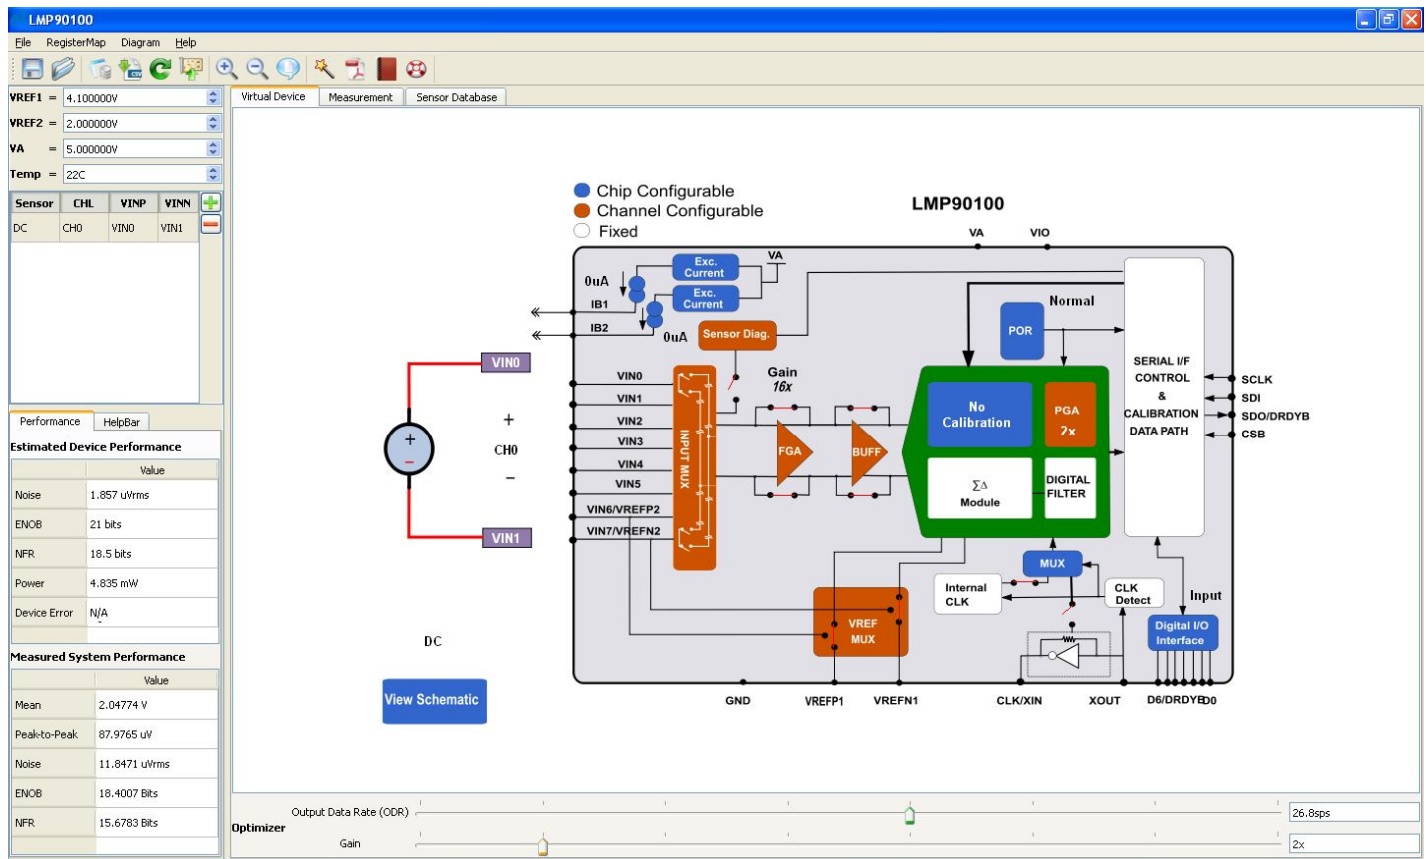

Figure 4 - Recommended LMP90100 Configuration for a DC Reading
1. Follow the step-by-step instructions under the "**HelpBar**" mini-tab (left hand side of the GUI) to configure the device. The recommended configuration is shown in Figure 4.